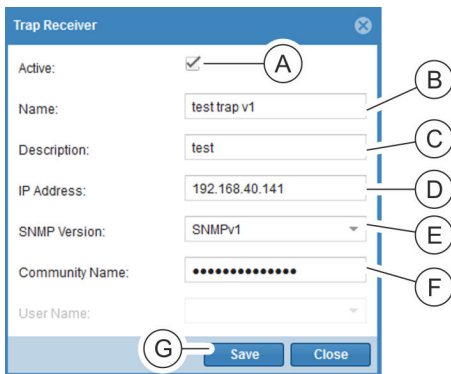

Fig. 140: “Trap Receiver” window
1. ➤ In the “Trap Receiver” window, click the “Active” button (Fig. 140/A) to activate the trap receiver.
2. ➤ Enter a name for the trap receiver (Fig. 140/B).
3. ➤ If necessary, enter a description (Fig. 140/C).
4. ➤ Enter an IP address (Fig. 140/D).
5. ➤ In the selection field, select an SNMP version (“SNMPv1” or “SNMPv2”) (Fig. 140/E).
6. ➤ Enter a community name (Fig. 140/F).
7. ➤ After entering the data, exit the window by clicking the “Save” button (Fig. 140/G) to create the configuration on the PDU.